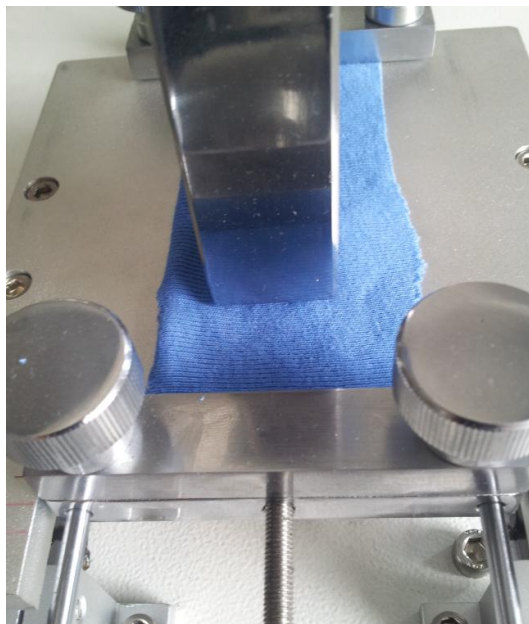

Figure 8
- 4) adjust the parallel selection button so that the connecting rod of the friction head is perpendicular to the surface of the machine (as shown in FIG. 8). Press the friction hammer gently on the surface of the test bed sample, and the friction object is in complete contact with the test piece.